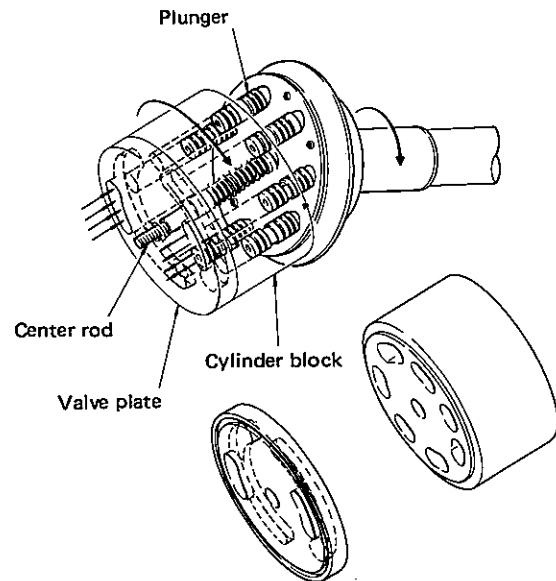

Fig. 3
While the timer spool is moving to the right to the end of its stroke, the oil in the spring chamber of safety valve B flows through the notch in shuttle spool (2) to the low pressure circuit (port MA). As a result, safety valve B operates at the low pressure setting. In addition, the spring chamber of safety valve A is connected to port MA regardless of the movement of timer spool (3), so it is always at the high pressure setting. (Fig. 3)
(Fig. 3)
The construction of the swing piston motor is shown on the preceding page. In Fig. 3, seven pistons are installed on disc-like spherical joints. The pistons are fitted in a cylinder block, and keep set angles to the output shaft. The cylinder block and valve plate are guided by a center rod. The cylinder block is free to rotate on the center rod shaft and the valve plate is secured to the base plate with a pin.